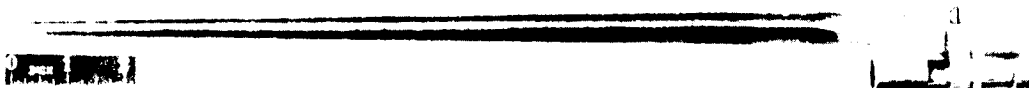

FIGURE 9. BAYONET FOR RIFLE M1891.
c. The detachable fluted bayonet (fig. 9), with an offset sleeve for the barrel, is fastened to the rifle by a locking ring.